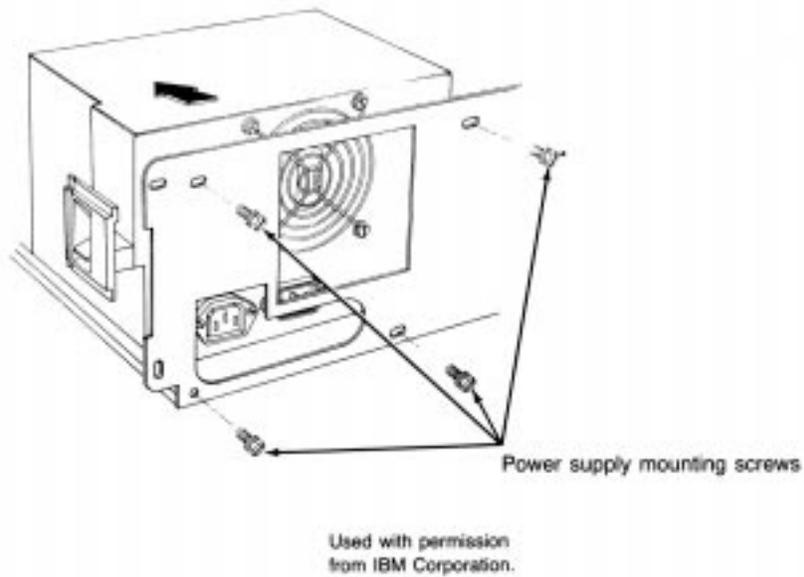

Fig. 3.17
1. Remove the four power supply retaining screws from the rear of the system unit chassis (see fig. 3.17).